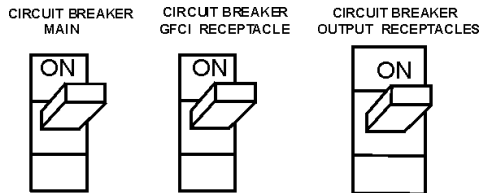

Figure 55. Main and GFCI Circuit Breakers
18. If there are no abnormal problems shown on the "MPEC" LED display, turn the MAIN, GFCI and LOAD circuit breakers to their ON position (Figure 55).